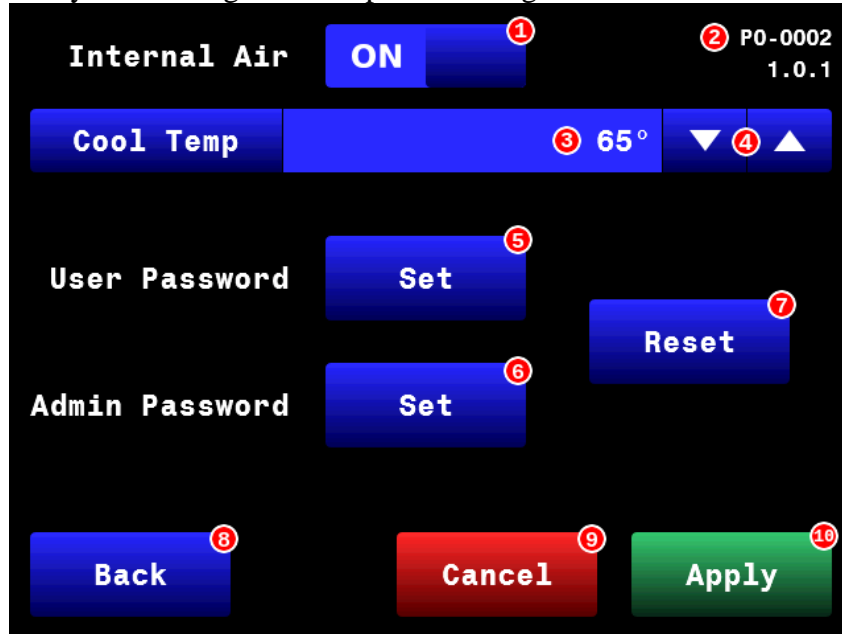

Figure 2.5 System settings screen
- The system settings screen opens. See Figure 2.5.